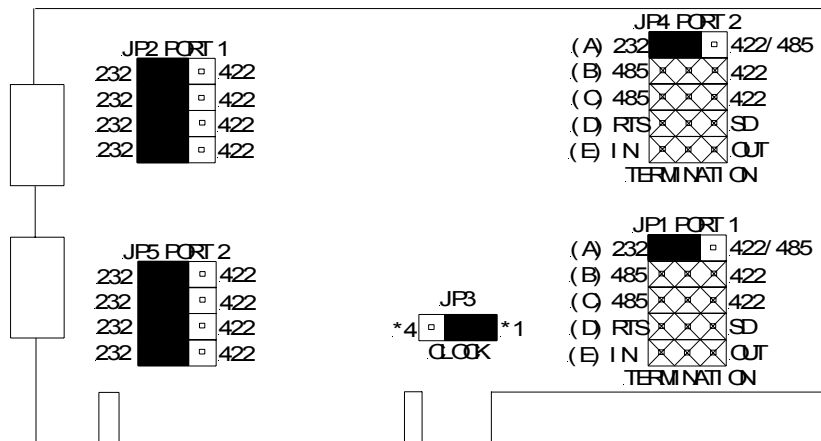

Figure 2. RS-232 Mode Jumper Settings
2. Set the top jumper (A) of JP1 to the "232" (left) position. Use JP4 for Port 2.
3. The remaining jumpers (B-E) of JP1 (*JP4 for Port 2*) are unused in the RS-232 mode and may be in either position. Figure 2 shows the jumper configuration to set both ports for RS-232 mode with \*1 clock enabled.